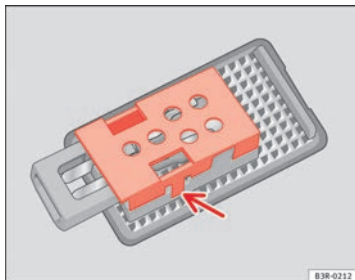

Fig. 224 Luggage compartment light
- Remove the protective cover and remove the bulb from the housing → Fig. 224.